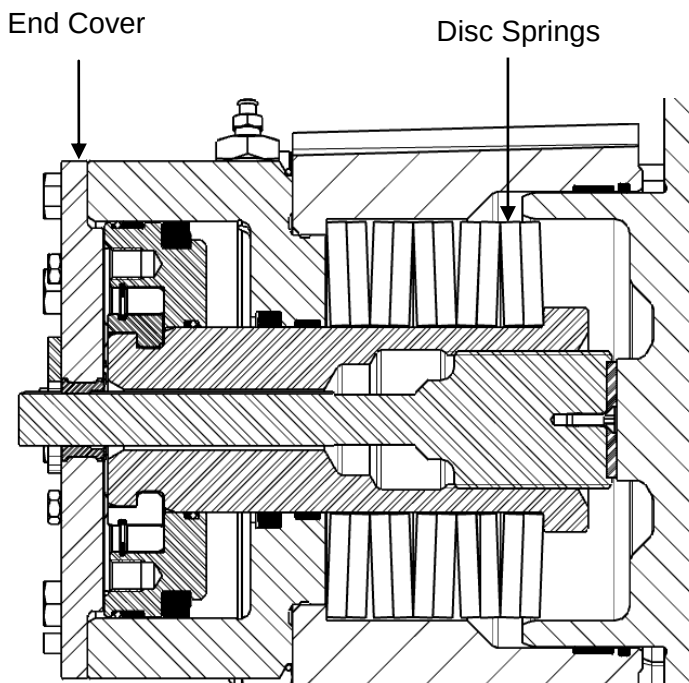

Fig 1. – VKSD119/62
See Section 3.10.1 and remove the ten disc springs (1). Discard three disc springs and re-assemble springs facing alternate directions, and with the disc spring bearing on the spring guide abutment with its smallest diameter as shown in Figure 1. Add spacer, part no. 7952008, at the other end of the spring stack if required.